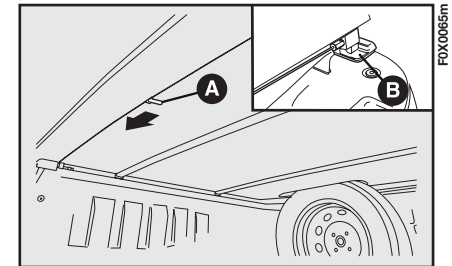

fig. 84
- turn the mechanical stop A-fig. 84 in the direction of the arrow, releasing locking device B;